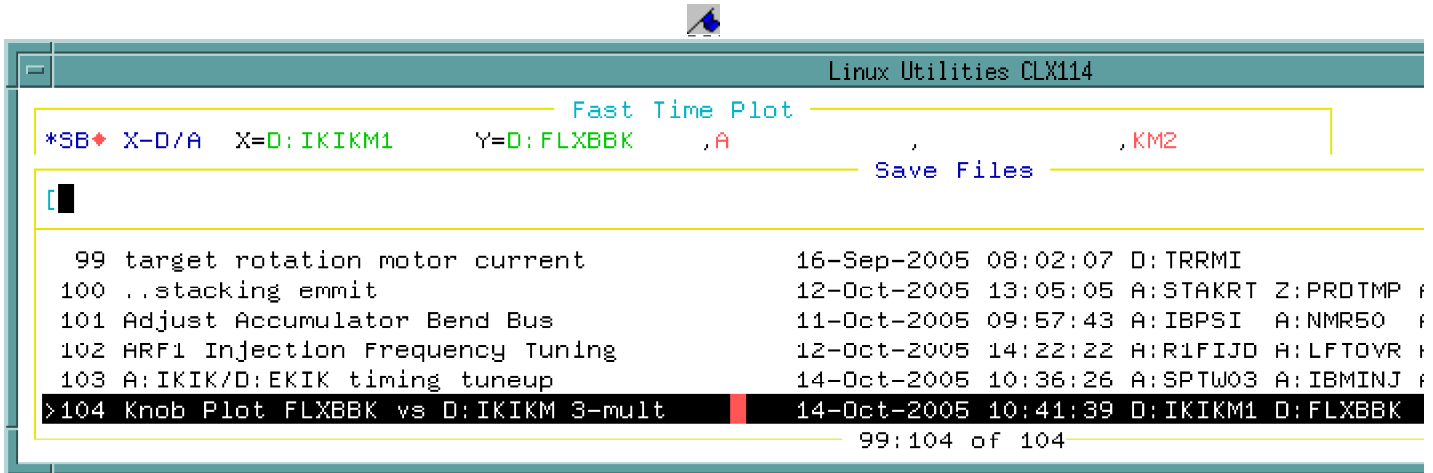

Figure 21:
12. As shown in Figure 21 start a FTP from Utility Window FTP Pbar File 104.